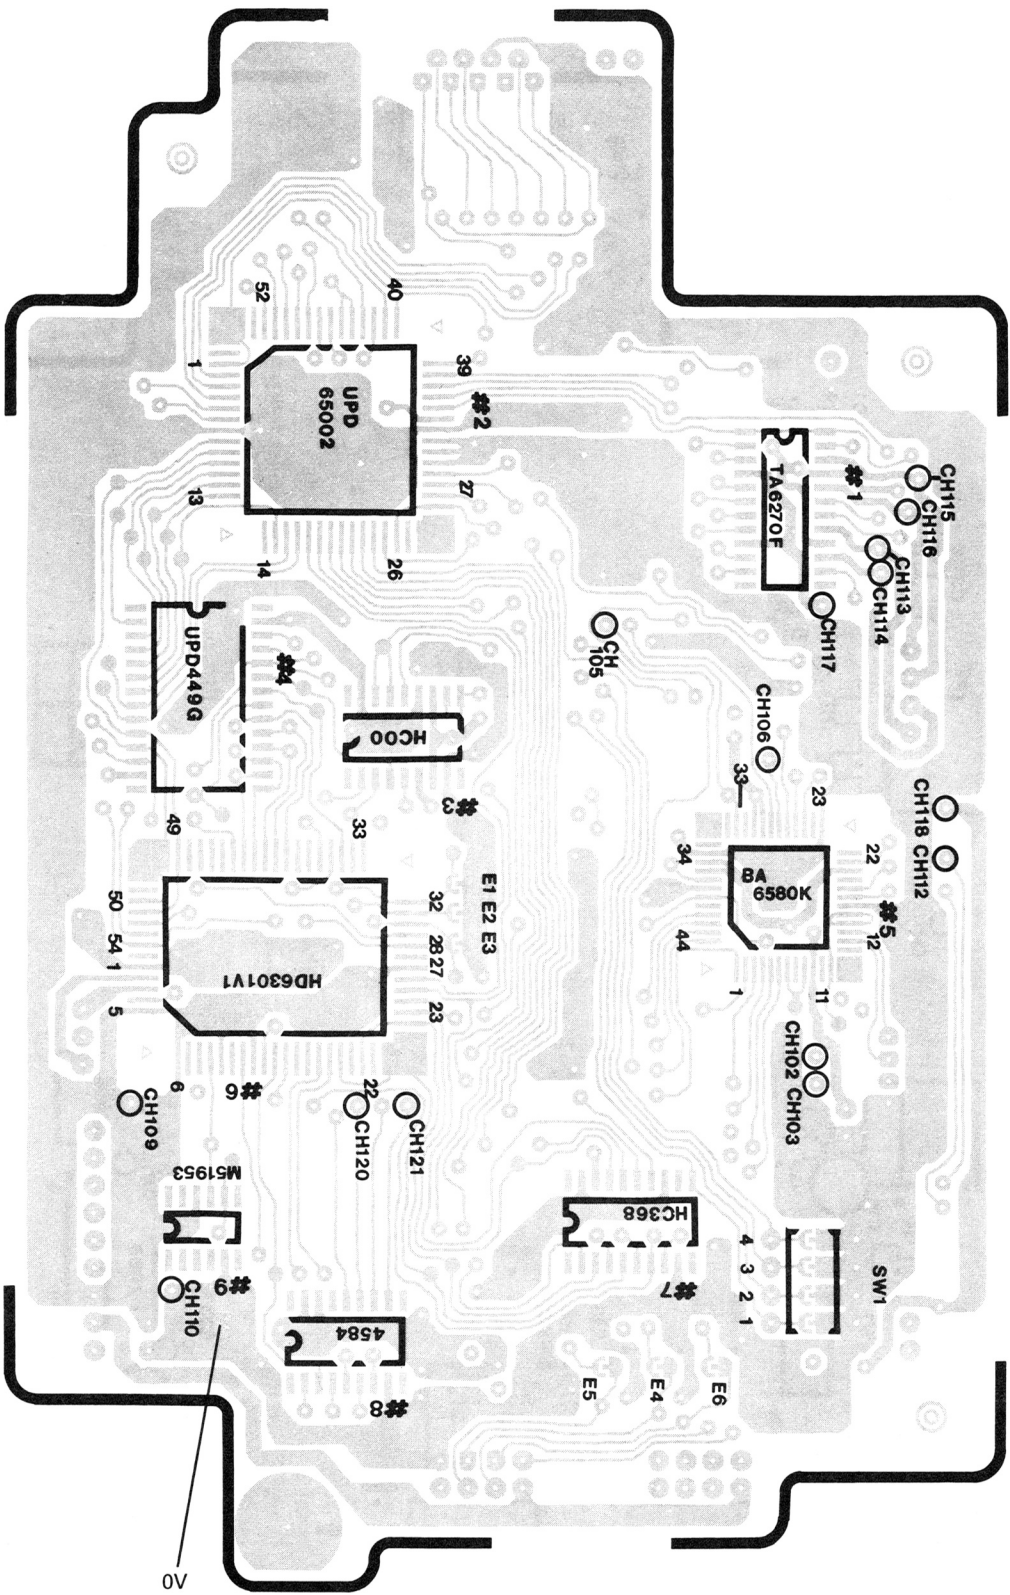

Fig. 10-2
(1) Necessary Apparatus
(2) Main PCB checkpoints (Refer to Fig. 10-2 on page 52)
Connect the ground of the probe of the counter to 0V shown in Fig. 10-2 and the hot lead of the probe to the index signal of CH120.
2. Connect the ground lead of the CH1 probe of the oscilloscope to 0V (Ground) shown in Fig. 10-2. Connect the hot lead of the CH1 probe to the index signal of CH120. Connect the hot lead of the CH2 probe to the waveform output of CH102 or CH103. Set the time interval of the oscilloscope to 20msec/DIV. The CH1 should be 1V/DIV and the CH2 should be 100mV/DIV. The triggering is done at CH1 according to the index.